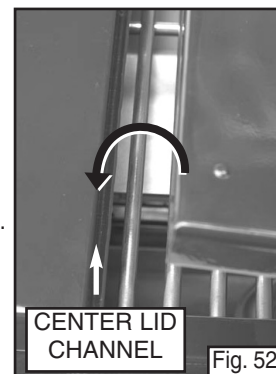

Fig. 52
- Place folded up Right Lid (Shelf) on grill. (Fig. 52)